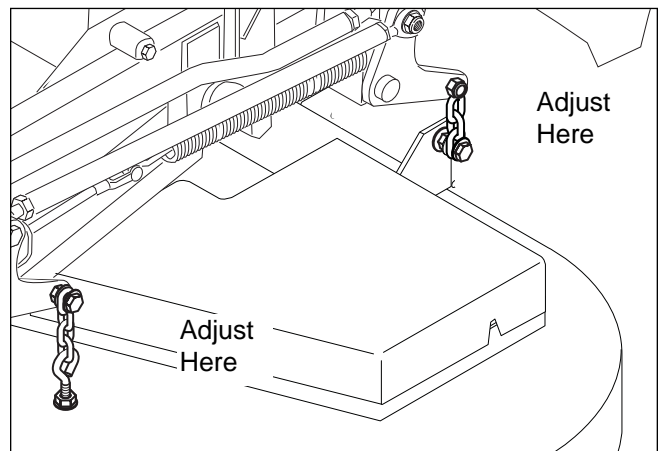

Figure 42. Hanger Chain Adjustment
4. Adjust the front eyebolts until the chains are tight and the deck is still resting on the 2 x 4's. Tighten jam nuts. See Figure 42.
5. Loosen the nuts and allow the rear of the deck to rest on the 2 x 4's and 1/4" spacers. Slide the chains down in the slots until the chains are tight and tighten the nuts. See Figure 42.